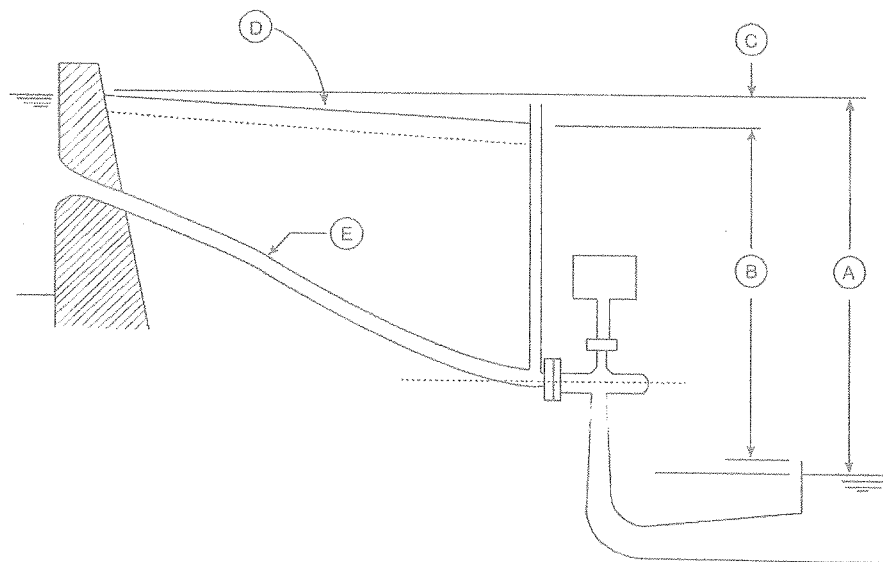

Figure Q5 (a)
- b) Velocity triangles relevant to jet of water from the nozzle strikes the bucket at the splitter and the Pelton wheel is shown in Figure Q5 (b). By taking all the notations given in the Figure Q5 (b) as usual terminologies associated to Pelton wheel, derive an mathematical expression for Hydraulic efficiency η_h of a Pelton turbine. [3.0 Marks]